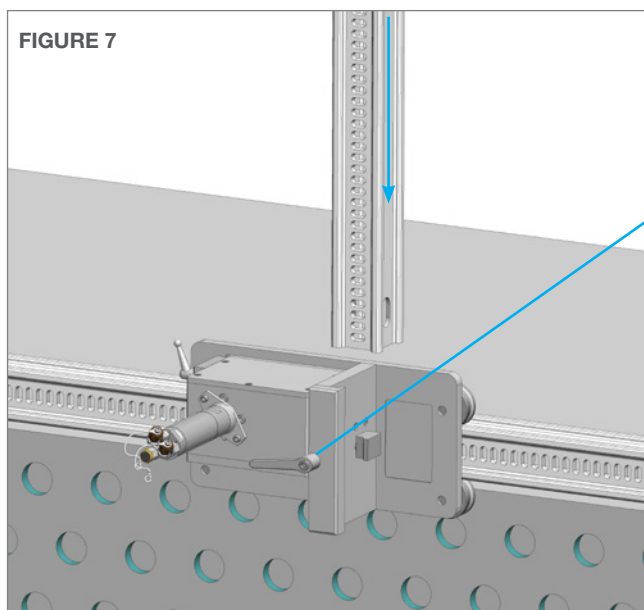

FIGURE 7
7. Loosen the Horizontal Mounting Plate Clamp. Install the **Vertical Rail** with **(slots facing out)** between the Clamp Finger and Rail Clamp. **(Figure 7)**